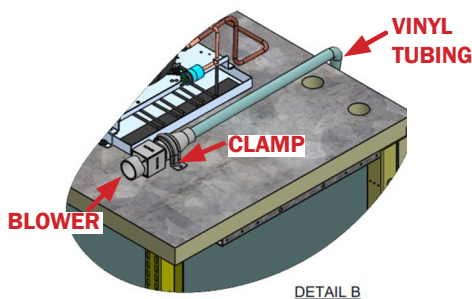

Fig. 31 Vinyl tubing to PVC blower
6. Mount the ship loose blower to the top of the case, securing it with the ship loose clamp on its adapter body (Fig. 31).
7. Connect the vinyl tubing from the barb fitting of the drain adapter assembly on the bottom of the case to the blower on the top of the case by routing the vinyl tubing under the case and along the back of the case. (Fig. 31)